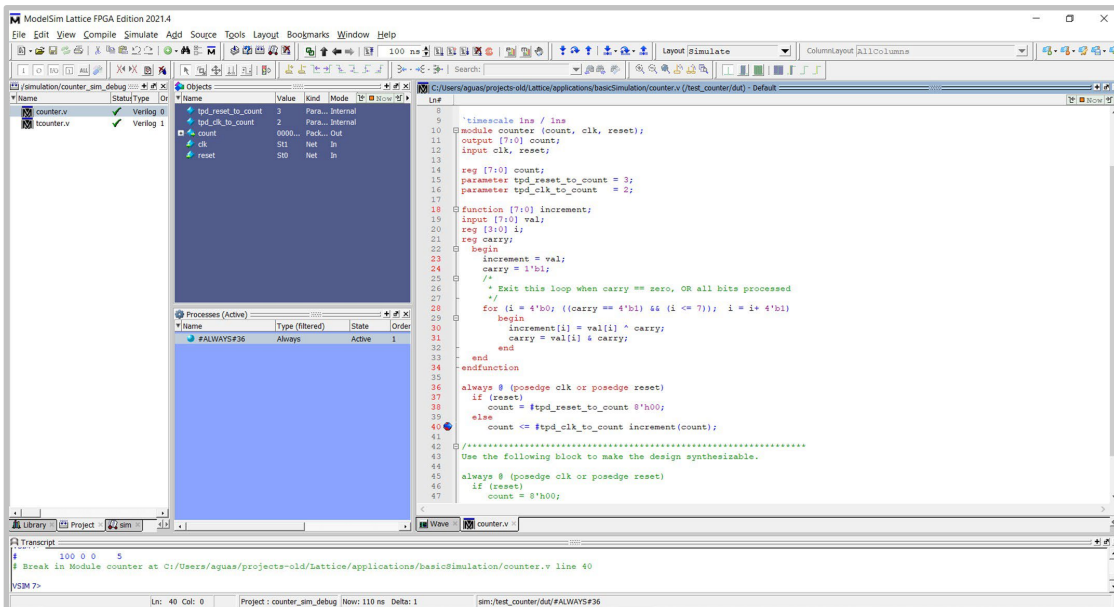

Figure 10: Stepping Around a Breakpoint
11. Run for 100ns and the debugger will stop at line 40; signal values can be seen in the Objects window. As with any other IDE running C code, you can **Step Into**, **Step Over**, and **Step Out**. See **Figure 10**.